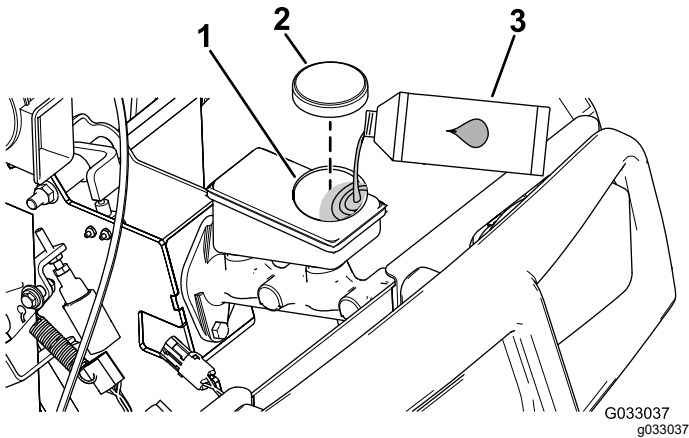

Figure 67
4. Raise the hood to access to the master brake cylinder and reservoir (Figure 67).
- A. Clean the area around the reservoir cap and remove the cap (Figure 67).
- C. Install the reservoir cap (Figure 67).